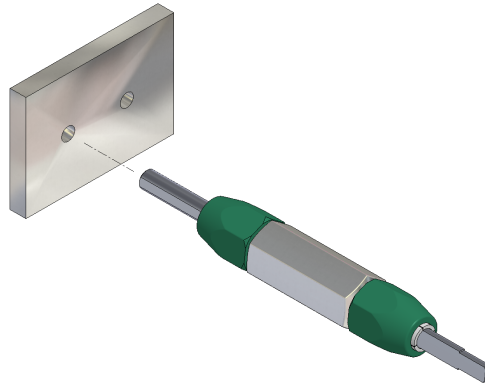

Figure 5-3
5. Verify that the hole has been properly cold expanded. See Figure 5-3.